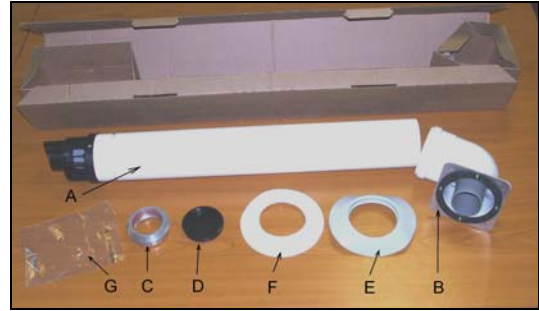

Figure 3
1. Seal the open air supply holes in the appliance with the sealing cap delivered with the set (item D in Fig 3) and the sealing cap delivered with the boiler.
3. Then fit the reducing bush (item C in Fig 3), pushing until fully in position.